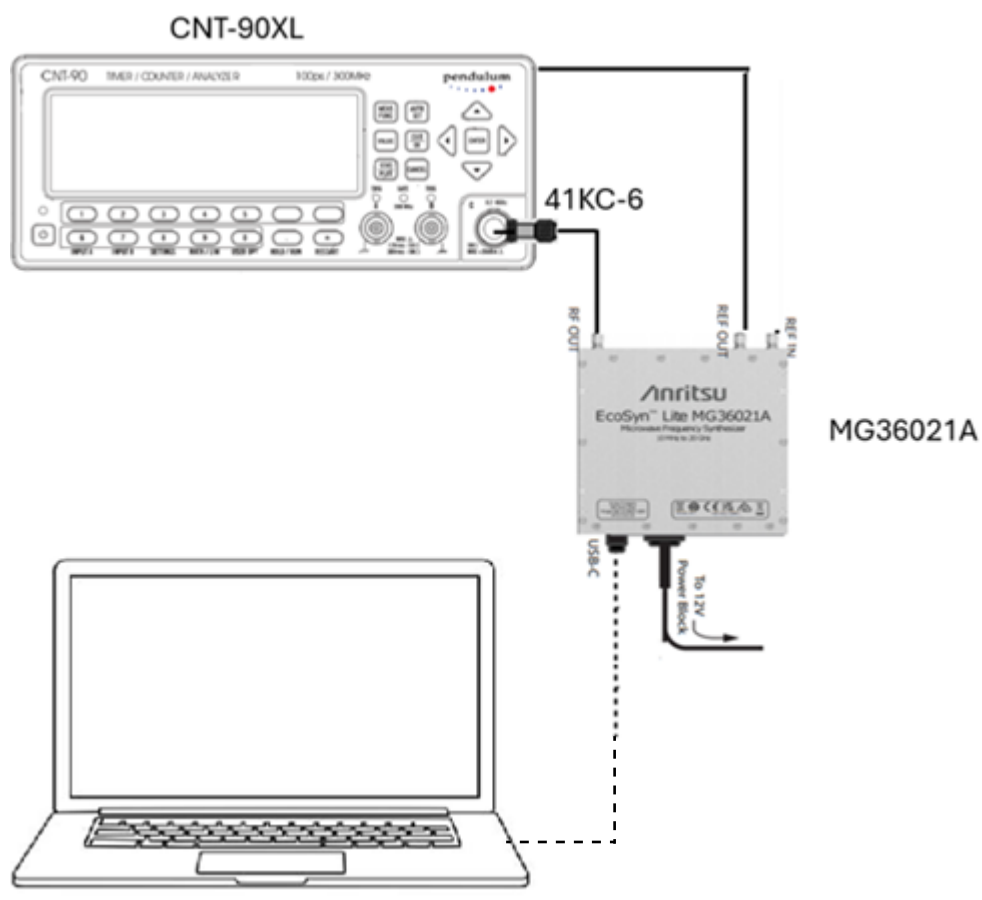

Figure 3-1. DAC Adjustment Setup with MG36021A and CNT-90XL
3. Connect the other end of the 41KC-6 attenuator to the input port C of CNT-90XL using an RF coaxial cable. See Figure 3-1.